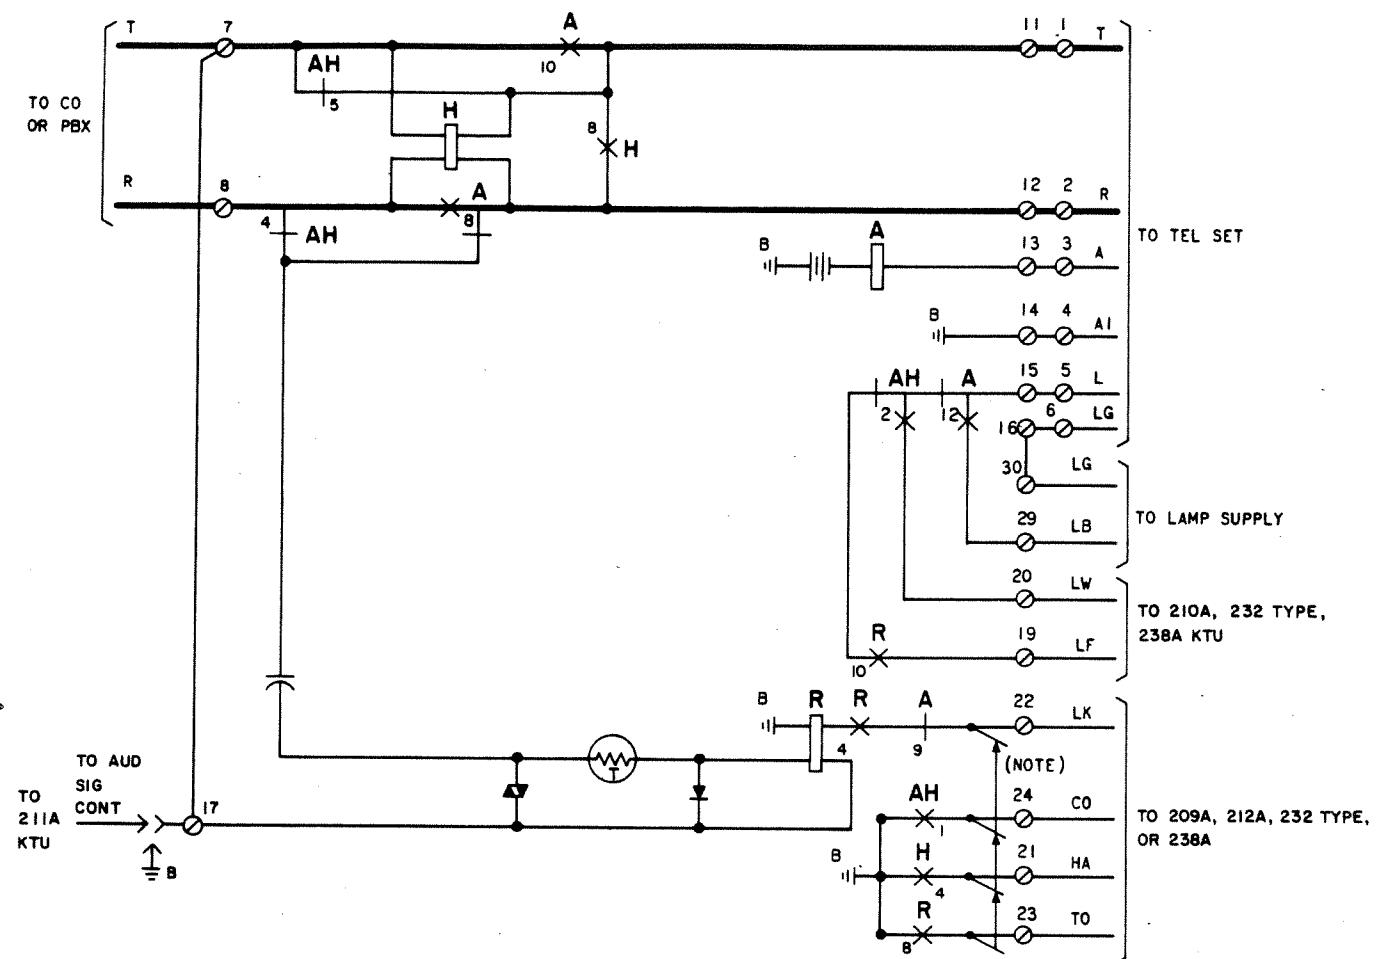
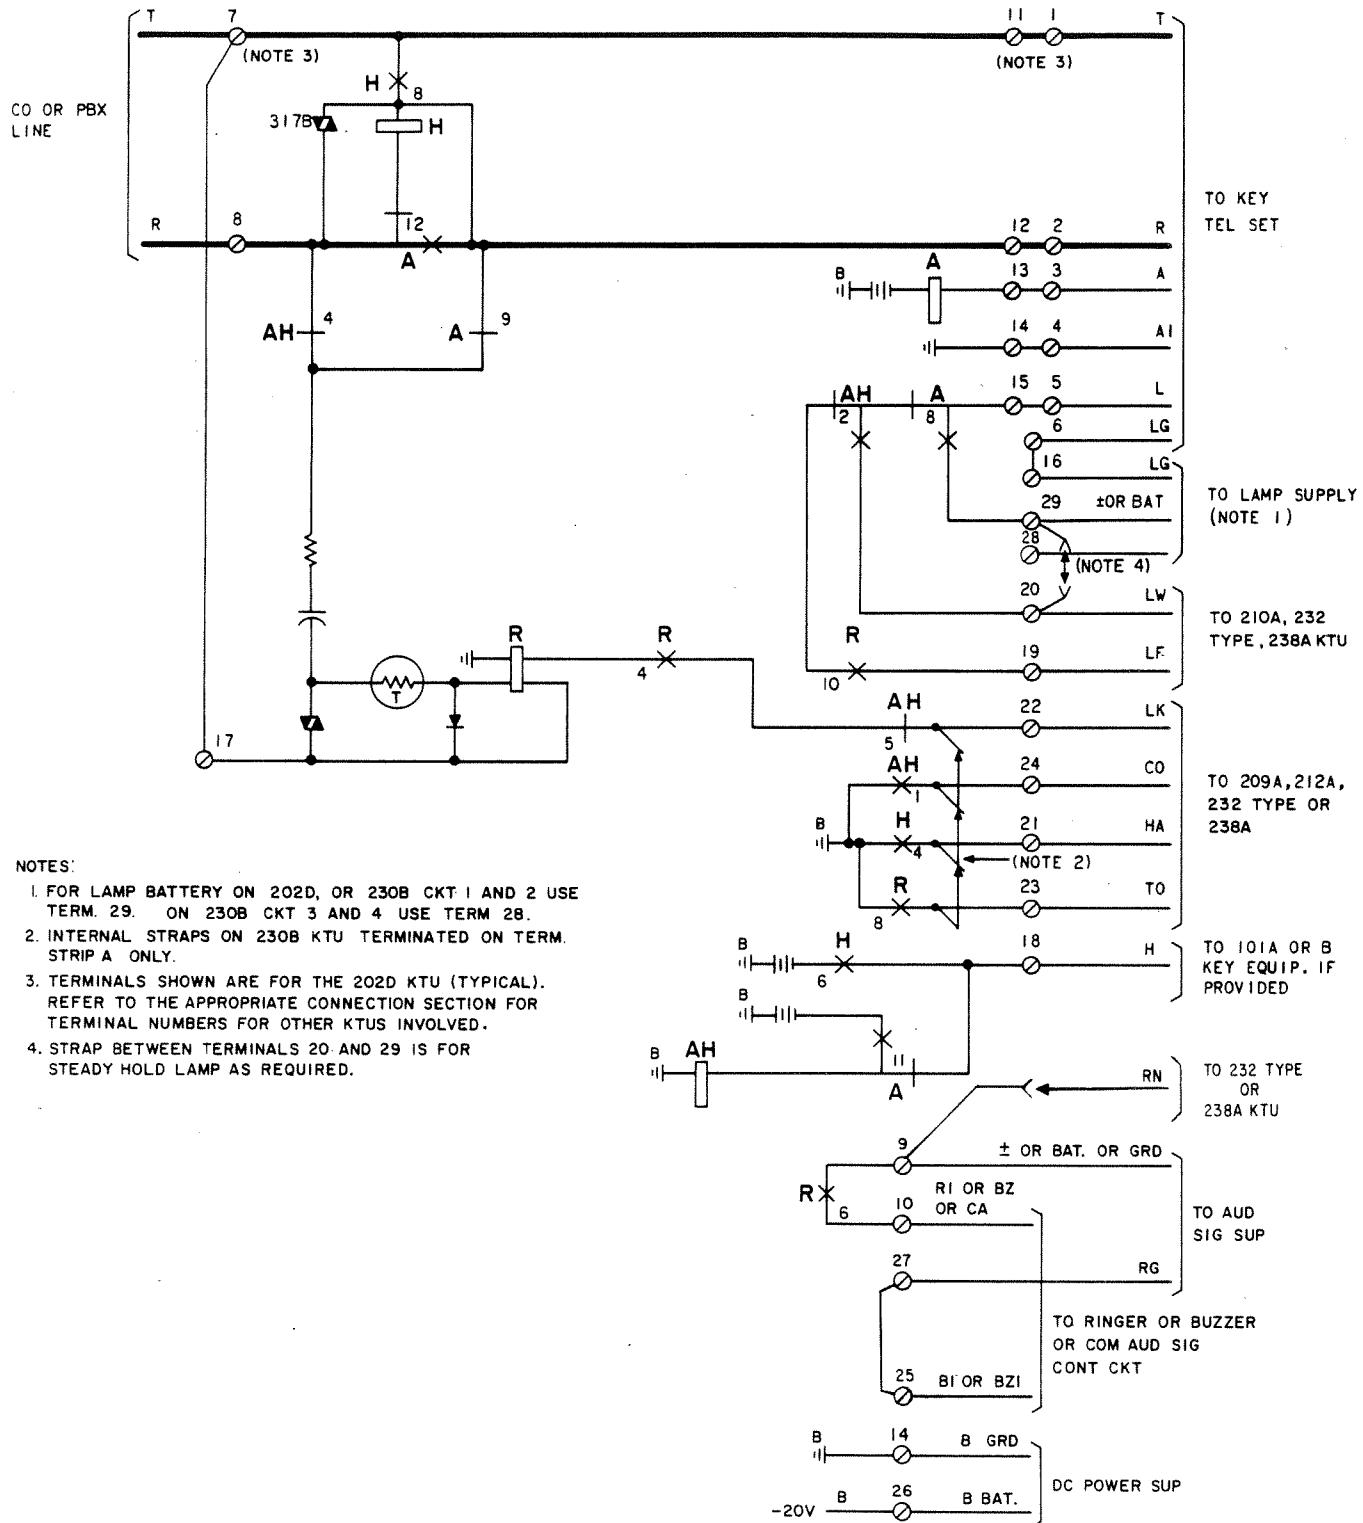
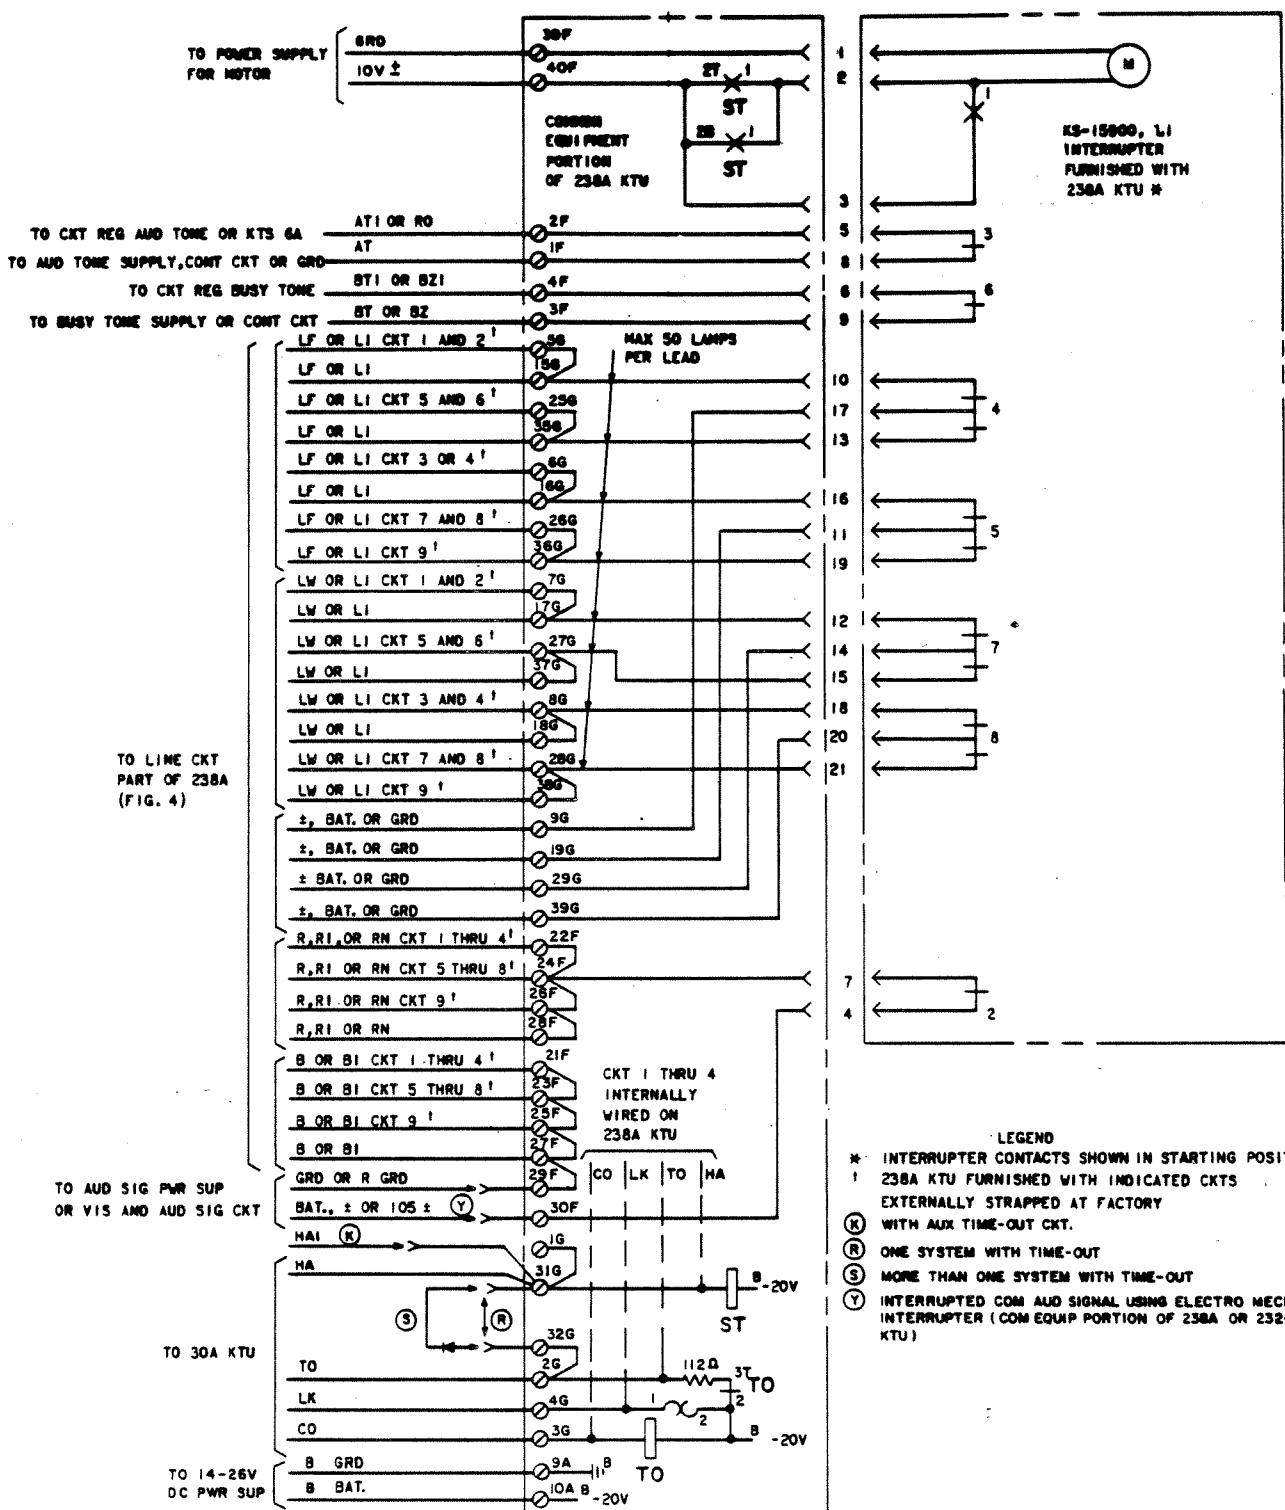

Fig. 3—Functional Schematic of 202C (MD) and 230A KTU (MD) (CO or PBX Line Circuit)
Fig. 4—Functional Schematic of 202D, 230B, 238A (Line Circuit Portion) and 239A KTUs (CO or PBX Line Circuit)
Fig. 16—♦Functional Schematic of 238A KTU (CO or PBX Line Circuit)♦
2.06 The 202C (Fig. 3) and 202D KTUs (Fig. 4) are arranged for metallic or grounded ringing.
N. 230A (MD) and 230B KTU (CO or PBX Line Circuit)
2.20 The 230A KTU (Fig. 3) is the equivalent of five 202C line circuits, and the 230B KTU (Fig. 4) is the equivalent of four 202D line circuits.
O. 232A (MD), 232B (MD), and 232C KTU (Electro-Mechanical Flash, Wink, Ring, and Time-Out Circuit)
2.25 The 238A KTU (Fig. 16) is the equivalent of nine 202D (Fig. 4) KTUs. It also contains circuitry to provide all the functions of the 232A or 232B KTUs (see paragraph 2.21).
2.26 The 239A KTU is the equivalent of eleven 202D (Fig. 4) KTUs. The 239A KTU is arranged in line groups of 4-4-3 and each line group can be associated with its own time-out and auxiliary interrupter equipment.